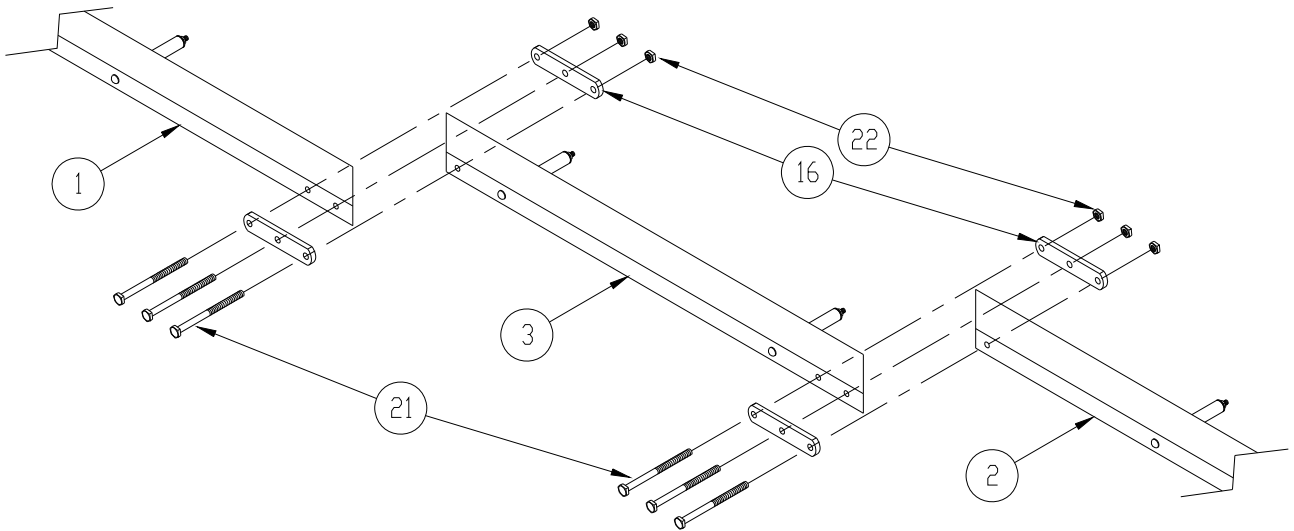

Figure 2-4
3. Refer to **Figure 2-4**. Assemble (2) sides of your canopy frame on the ground using (1) left hand, right hand and center stringer for each side assembly. Fasten each joint together with (2) three hole plates and hardware shown. Each stringer assembly **MUST** be straight for proper fabric fitting. (NOTE: The VL1200 does not have a center stringer.)